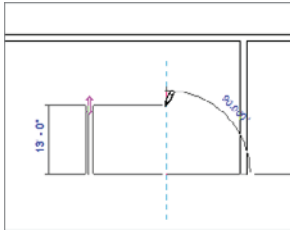

FIGURE 2.19 By using the Offset command as you draw walls, you can use one common centerline.
10. After you pick the 25'-0" (7500mm) distance, move your cursor up, back toward the wall, as shown in Figure 2.19, resulting in a 25' (7500mm) long wall.